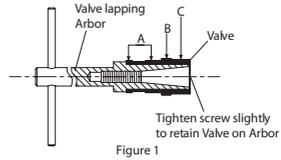

Figure 1
2. Clean and check the Piston (21). Replace it if it is badly worn. Apply a few drops of **Ingersoll Rand** No. 10 Oil on the Piston before inserting it into the Barrel, tapered end first.
3. Place the Valve (14) in the Valve Box (12), large end first. If an oversize Valve is required, it must be lapped into the Valve Box.
- a. Install the Valve (14) on the No. 29870 Valve Lapping Arbor as shown in Figure 1.